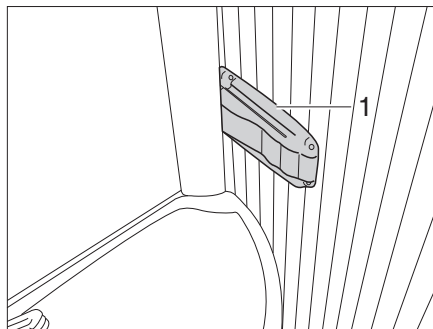

Fig. 344 Vario toilet, locking the shower wall
- Push the latch (Fig. 344,1) right on the edge of the wash basin and lightly pull the wash basin. The wash basin moves forwards with the rear wall.